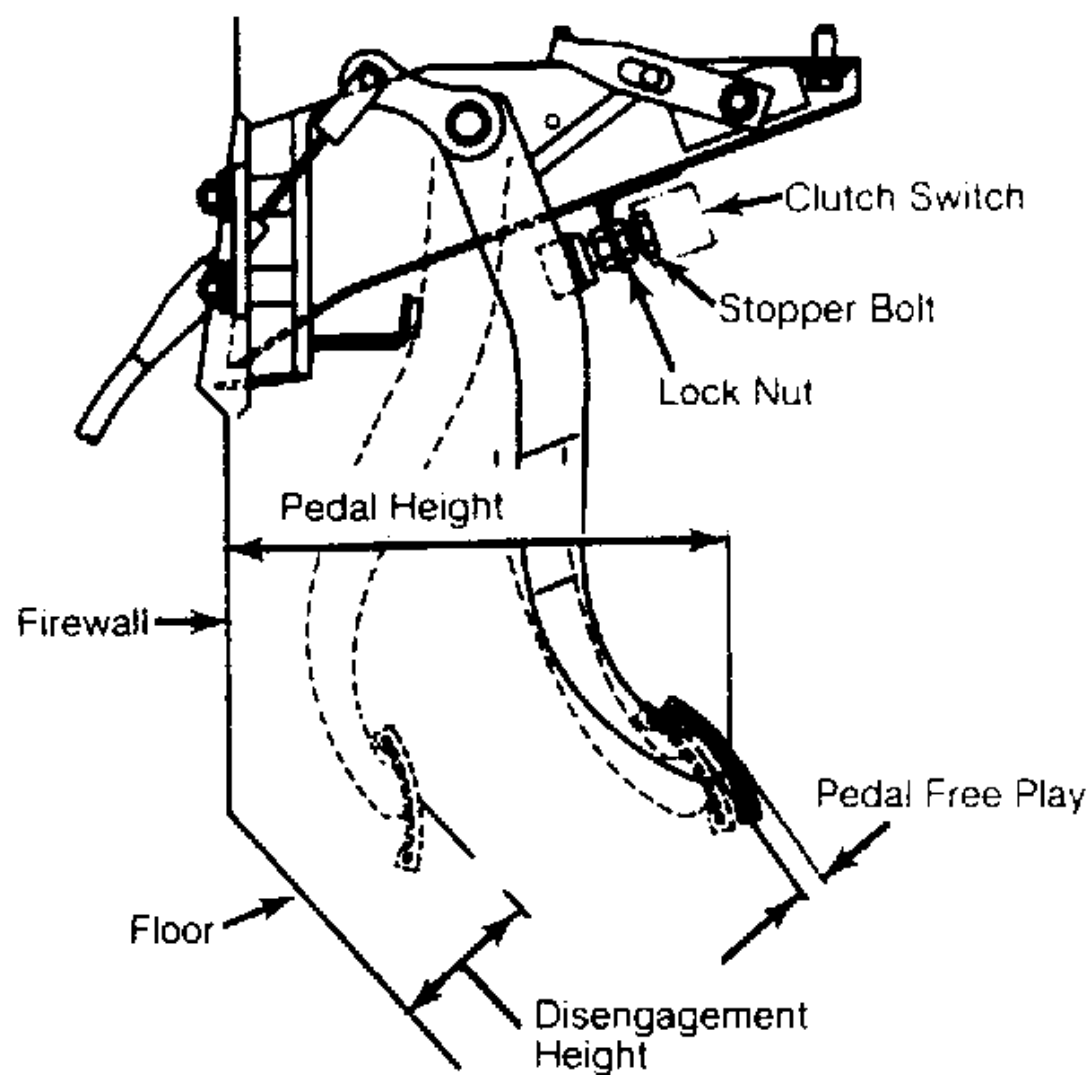

Fig. 1: Adjusting Clutch Pedal
1. Measure clutch pedal movement from parked position to first indication of clutch application. See Fig. 1 . Free play must be within specifications. See CLUTCH PEDAL SPECIFICATIONS .
1. Disconnect clutch cable from release lever at transaxle. Measure distance from upper center of pedal to firewall. See Fig. 1 . If not within specifications, check pedal mounting for wear or damage. See CLUTCH PEDAL SPECIFICATIONS .